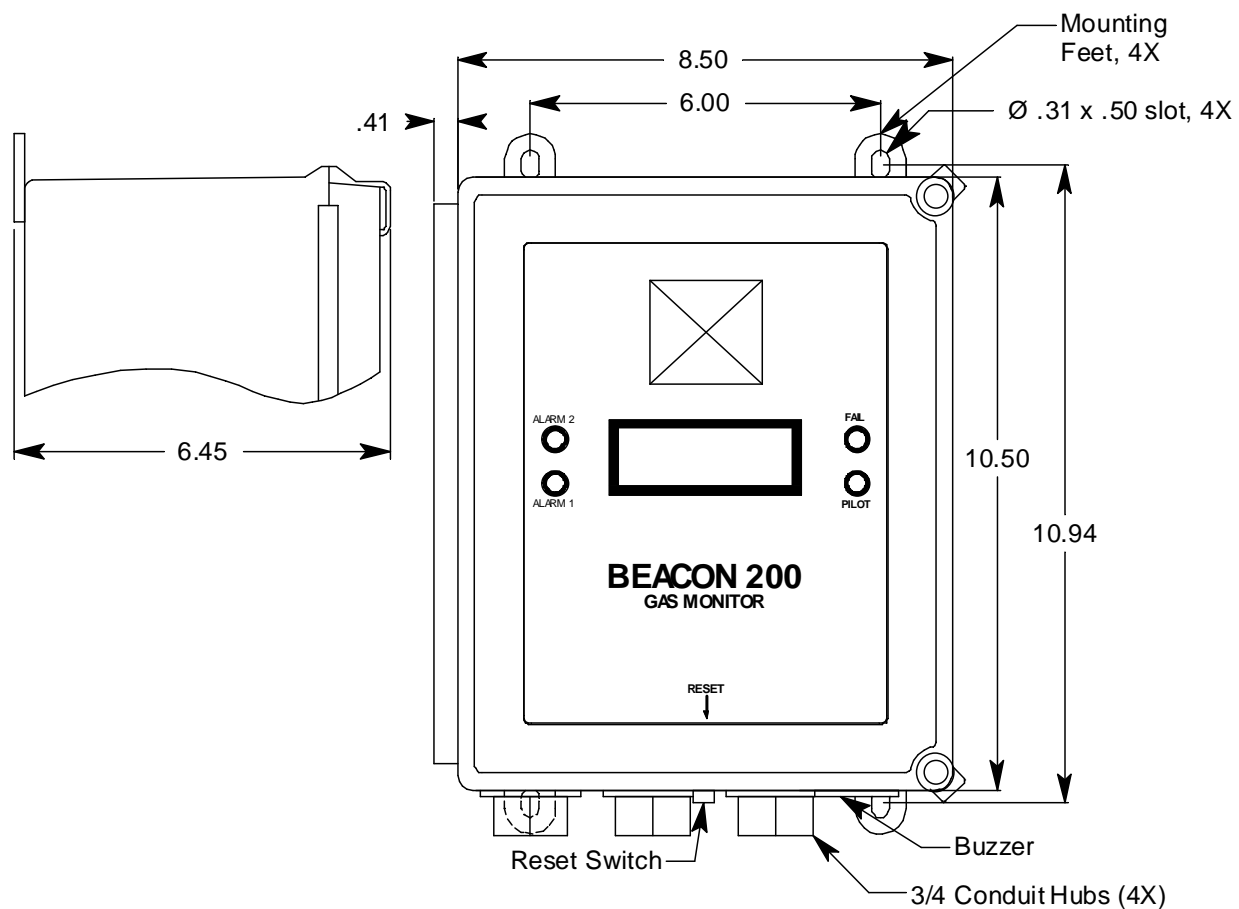

Figure 4. 12 VDC Beacon 200 Outline and Mounting Dimensions
4. The 12 VDC Beacon 200 is shipped with the mounting feet positioned behind the housing. Loosen the screws that secure the feet to the housing, rotate the feet to their mounting position (as shown in Figure 4), then tighten the screws.
5. Insert 1/4 in. or 5/16 in. screws through the slots in the mounting feet at each corner of the housing to secure the housing to the mounting surface (see Figure 4).